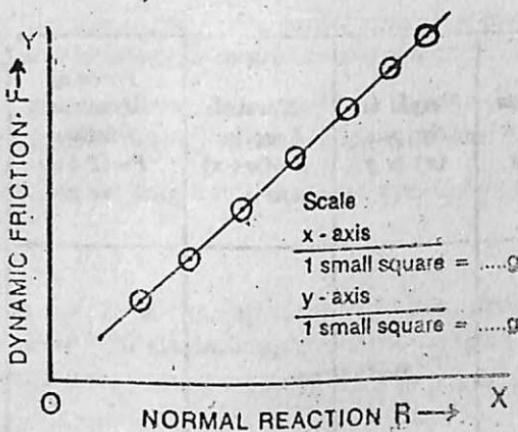

Fig. 15.1
- Plot a graph taking normal reaction ( $R$ ) along X-axis and the dynamic friction ( $F = P + w$ ) along Y-axis. The graph will be a straight line upto a certain limit (Fig. 15.1).